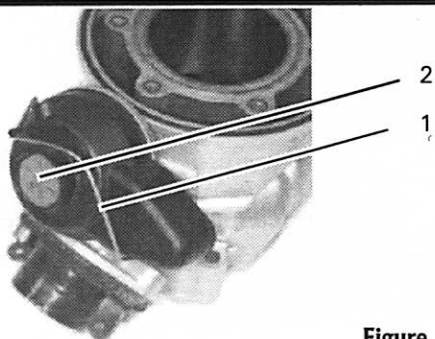
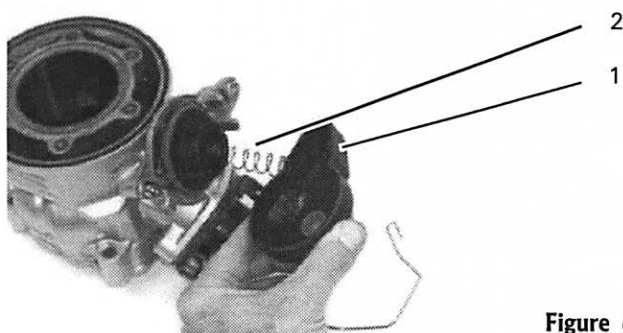

Figure 67
Figure 68
1. Unhook the spring clip (1, Figure 67) and pivot it away from the valve cover. Then remove the valve cover (1, Figure 68) along with the adjustment screw and compression spring (2, Figure 68).
8. Inspect the compression spring (2, Figure 68) for stretched or unequally spaced coils, flat spots or other damage. If the compression spring shows no visible damage, check it as follows:
8. Install the compression spring (2, Figure 68) and the valve cover (1, Figure 68), then secure the valve cover with the spring clip (1, Figure 67).
9. Tighten the red adjustment screw (2, Figure 67) until it is level with the valve cover.